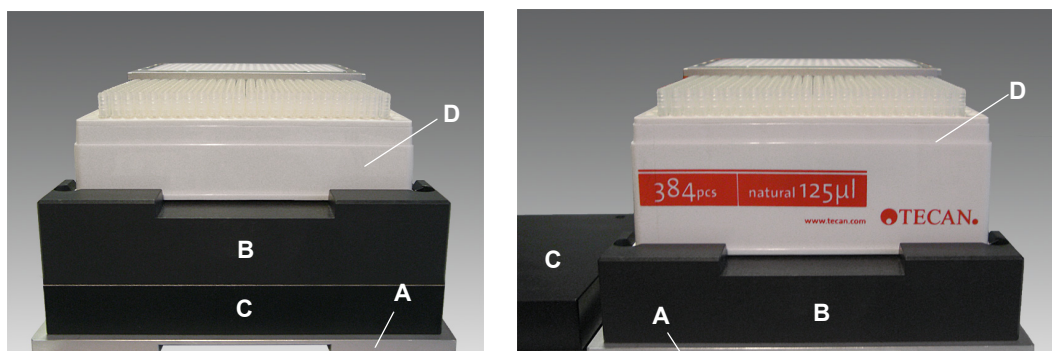

Fig. 3-27 MCA384 MP/DiTl nest for different DiTi boxes
It is used to place DiTi boxes at the correct height. Depending on the presence of the intermediate plate (B), two different heights of the nest can be realized (see Fig. 3-27 "MCA384 MP/DiTi nest for different DiTi boxes",  3-25).